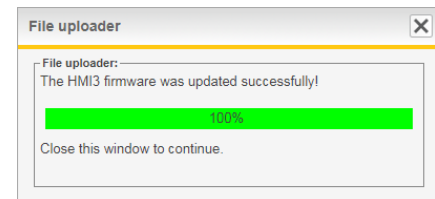

Figure 38: HMI3 software update complete
2. Wait until presented with the screen shown in Figure 38. The HMI3 was updated successfully, you can now close the window and use the system normally.